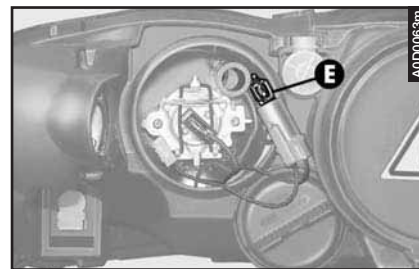

fig. 34
- Remove the bulb (**E- fig. 34**) from the bulb holder, pushing it slightly and turning it counter-clockwise.